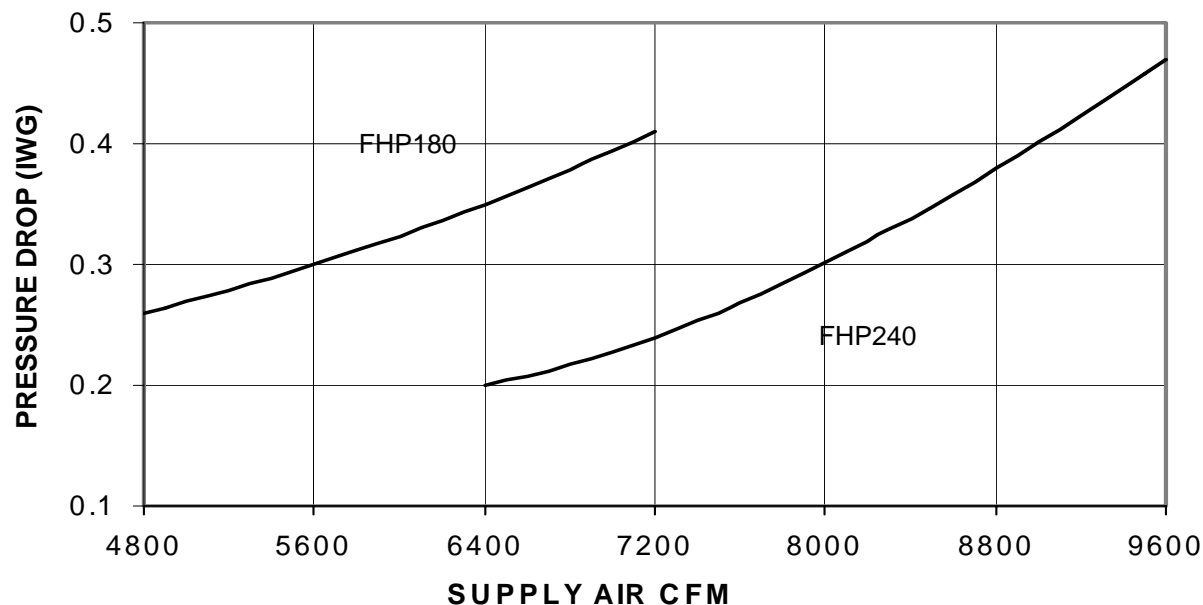

FIGURE 16: CFM VS PRESSURE DROP
4. Knowing the pressure drop across a dry coil the actual CFM through the unit can be determined from the curve in Fig. 16.